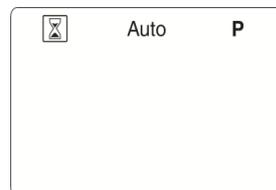

Fig. 9
- 1) *on the remote control, press the navigation button (▶), until the manual operation symbol  is selected, as in Fig.9;*